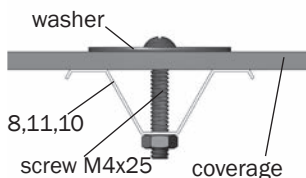
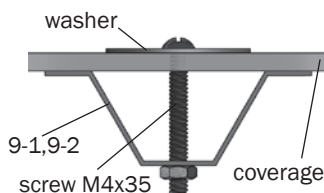

Fig.18
Fig.19
3. Mount end sides in accordance with **Fig. 21**. Holding a piece of coverage fasten it on elements **8, 11, 10** using washers and screws M4x25 (**Fig. 18**), on elements **9-1, 9-2** using washers and screws M4x35 (**Fig. 19**), and on angles using washers and tap screws. Holes for screws are drilled by boring bit of 4 mm diameter from inside of greenhouse through available holes in frame elements. Mount ridge panel pieces fastening them on elements **10** (**Fig. 18**).